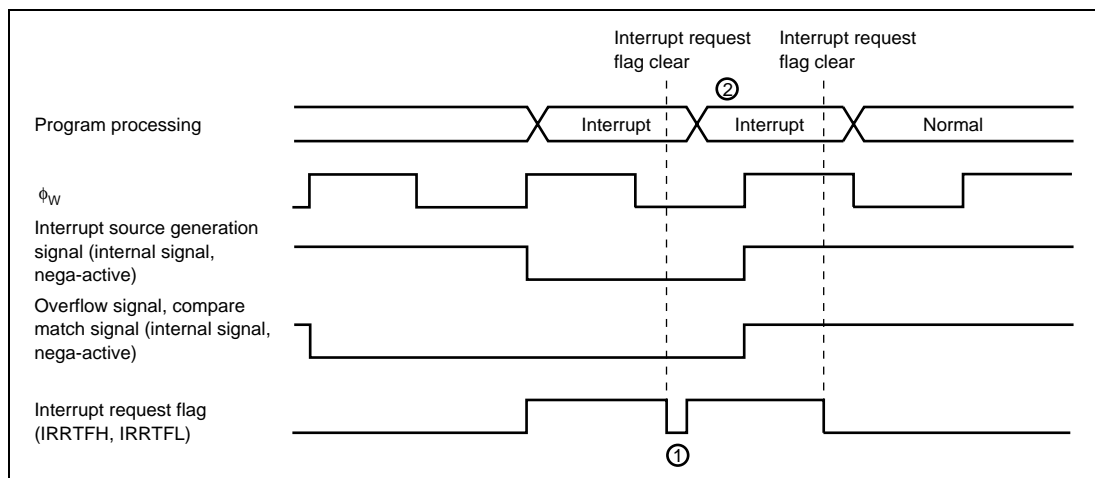

Figure 11.3 Clear Interrupt Request Flag when Interrupt Source Generation Signal is Valid
When $\phi_w/4$ is selected as the internal clock, "Interrupt source generation signal" will be operated with ϕ_w and the signal will be outputted with ϕ_w width. And, "Overflow signal" and "Compare match signal" are controlled with 2 cycles of ϕ_w signals. Those signals are output with 2-cycle width of ϕ_w (figure 11.3)
In active (high-speed, medium-speed) mode, even if you cleared interrupt request flag during the term of validity of "Interrupt source generation signal", same interrupt request flag is set. (1 in figure 11.3) And, the timer overflow flag and compare match flag cannot be cleared during the term of validity of "Overflow signal" and "Compare match signal".
For interrupt request flag is set right after interrupt request is cleared, interrupt process to one time timer FH, timer FL interrupt might be repeated. (2 in figure 11.3) Therefore, to definitely clear interrupt request flag in active (high-speed, medium-speed) mode, clear should be processed after the time that calculated with below (1) formula. And, to definitely clear timer overflow flag and compare match flag, clear should be processed after read timer control status register F (TCSRFF) after the time that calculated with below (1) formula.